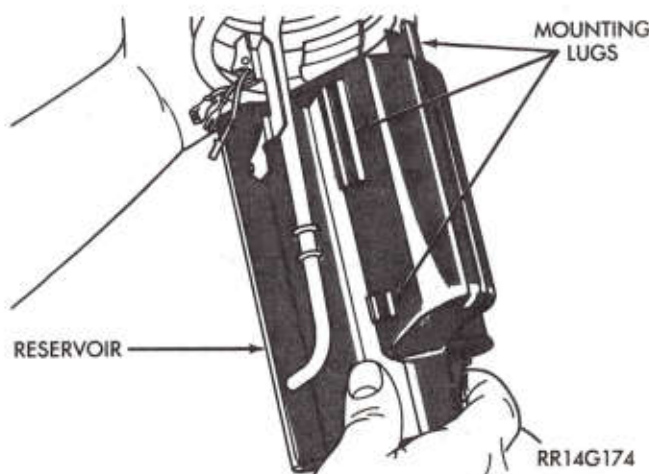

Fig. 5—Removing Fuel Line Coil from Reservoir
(3) Remove the drain tube from the mounting lug at the bottom of the reservoir (Fig. 5).
(4) Remove the lower-most coil of the drain tube out of the mounting lugs on top of the reservoir (Fig. 5). Care should be taken to avoid unsnapping the return line check valve cover from the bottom of the reser-
(6) Position coil tube onto reservoir so that the drain tube aligns with mounting lugs on reservoir. (Fig. 5).
(7) Snap lower-most coil into mounting lugs on top of the reservoir.